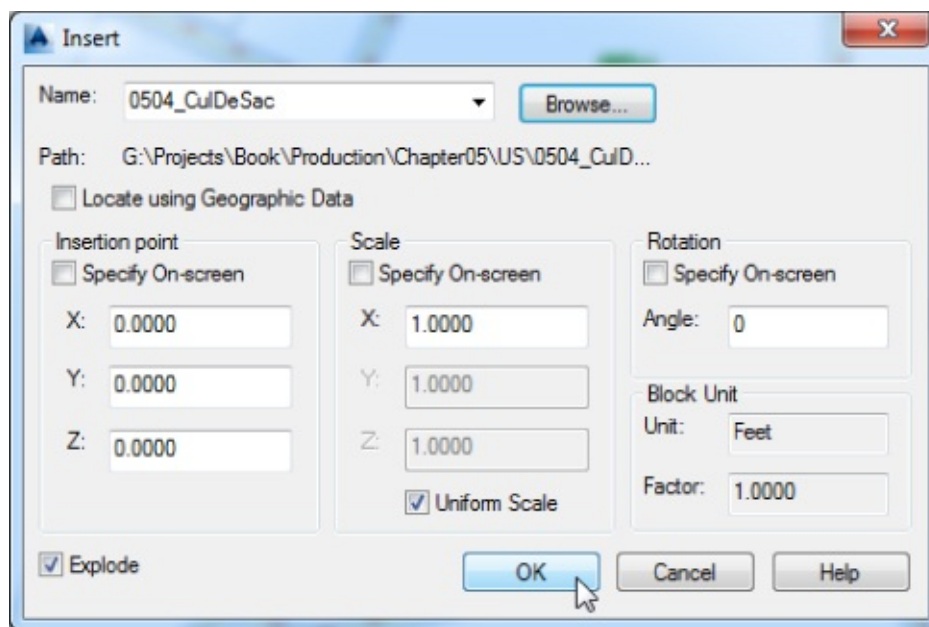

Figure 5.19 Inserting the cul-de-sac block
2. Locate 0504_CulDeSac.dwg (0504_CulDeSac_METRIC.dwg) in the chapter's directory and insert the file using the settings shown in Figure 5.19.